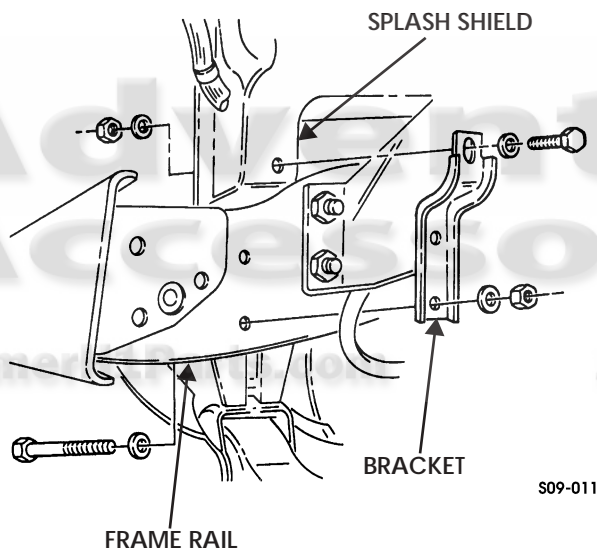

Figure 9-23: Splash Shield Support Bracket
1. Remove locknut, washer, capscrew, and washer securing splash shield to bracket. Discard locknut (Figure 9-23).
1. Install bracket on frame rail with two washers, capscrews, washers, and locknuts. Tighten locknuts to 90 lb-ft (122 N•m) (Figure 9-23).